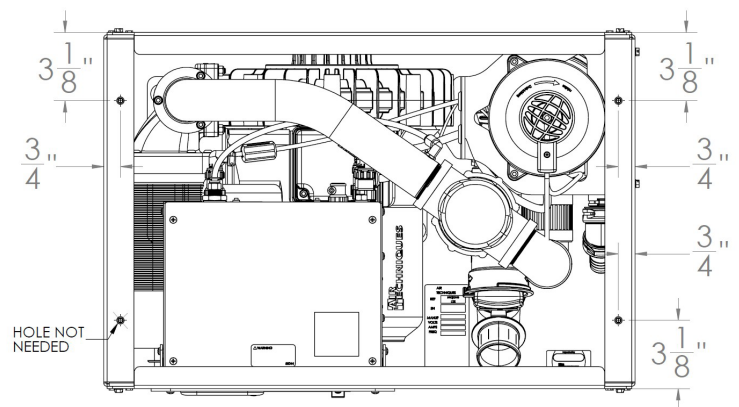

Figure 5. Drilled Hole Dimensions
2. Measure and mark the centers of the three (3) drill holes using Figure 5 to determine hole locations.
2. Temporarily remove the Air/Water Separator by removing the three (3) bolts holding the Air/Water Separator to the chassis. Place Air/Water Separator aside.
3. Measure and mark the centers of the (3) drill holes using the Figure 5 to determine hole locations.